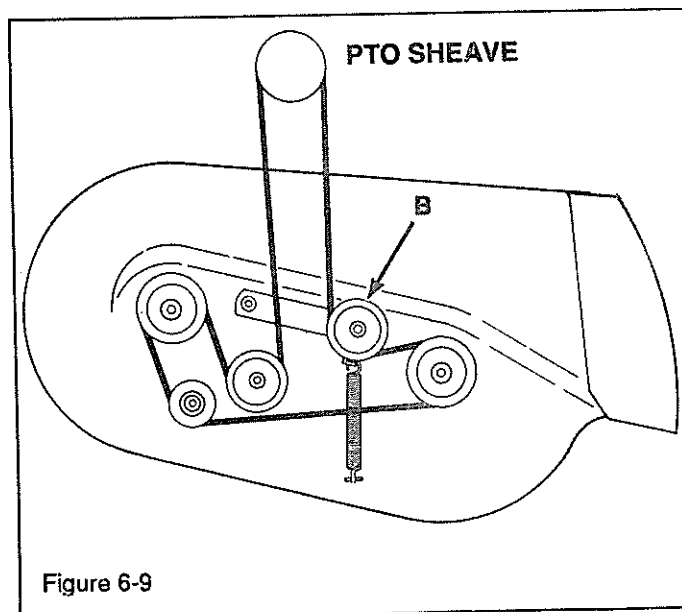

Figure 6-9
- a. Remove mower drive belt from the drive (PTO) sheave by pulling idler (B, Figure 6-9).
- Install belt onto sheaves and pulleys as shown in Figure 6-9.